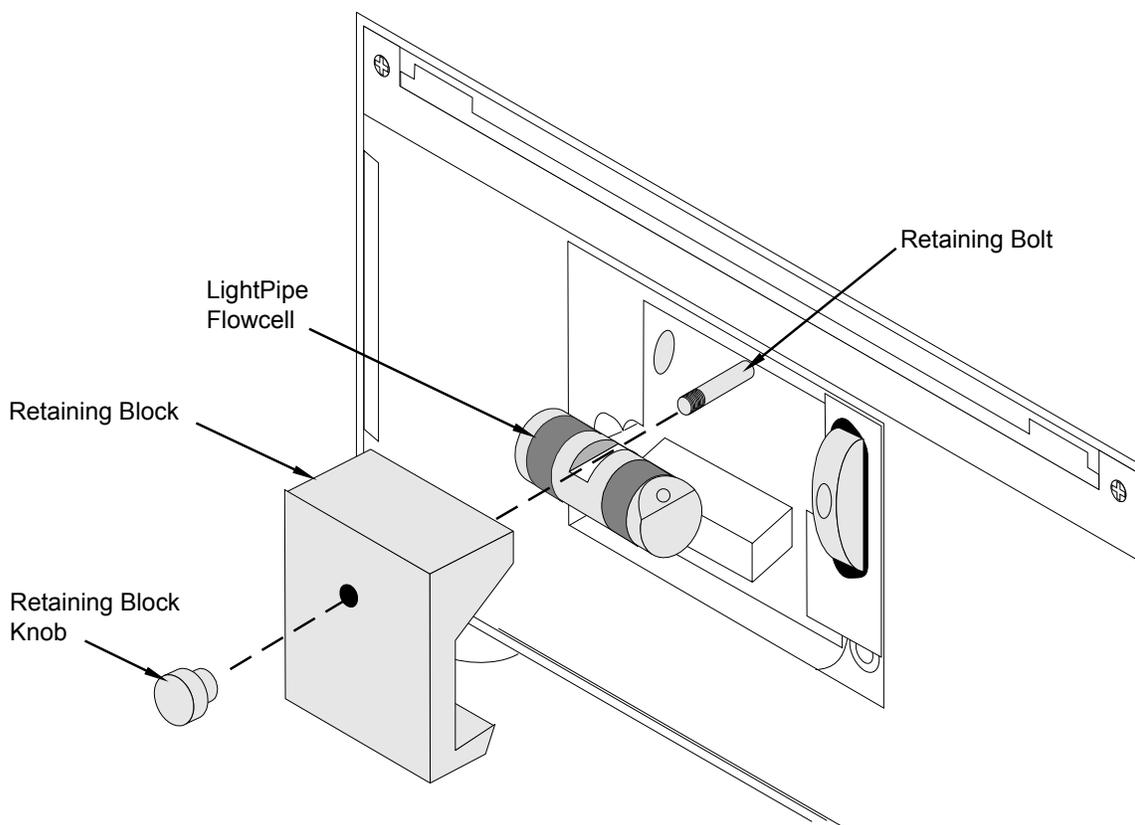

Figure 4.1 Detector Flowcell Removal
4. Loosen and remove the retaining block knob that holds the flowcell retaining block in place and remove the retaining block (refer to Figure 4.1).